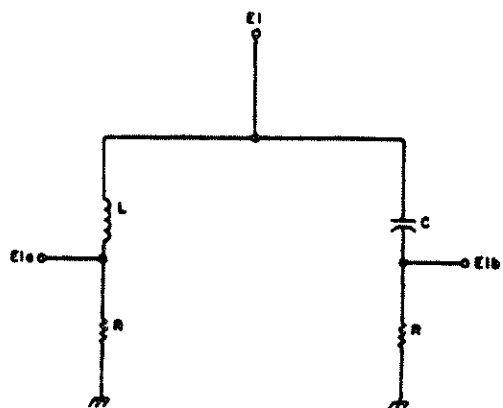

Figure 3-10. Phase Shift Network, Simplified Schematic Diagram
(2) Phase Shift Network (Fig. 3-10) – This circuit is designed to maintain the phase difference between E1_A and E1_B at exactly 90° at all frequencies. The voltages are equal only at